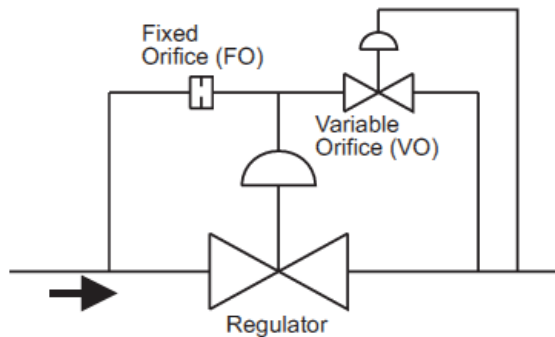

Fig. 3 Typical Pilot System
The accuracy of the system is a function of the “GAIN” or multiplication of the pilot system which is primarily dependent on the ration of the flow area of the Fixed Orifice (FO) to the Variable Orifice (VO) (See Figure 3). The fixed orifice is always smaller than the variable orifice and in many systems the fixed orifice is adjustable so that the regulator may be adjusted in the field for the highest gain (greatest accuracy) possible. Gain values of 50:1 are not uncommon, which means that the pressure can be controlled to within 2% of the set point.